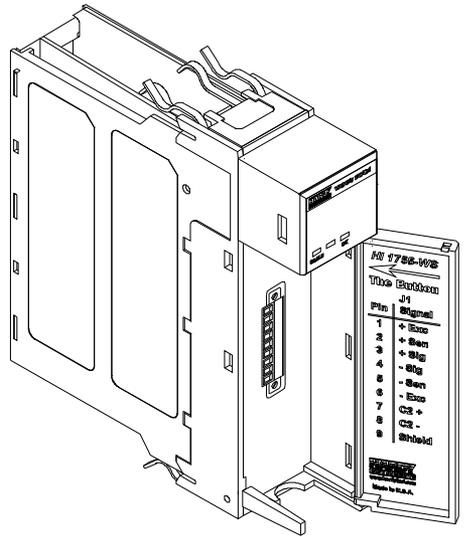

FIG. 3-4 HI 1756-WS WITH DOOR OPEN
The I/O Connector at the front of the module connects the module to the Remote Terminal Assembly (-RTA), a load sensor, or the HI 215IT Series Junction Box, depending on how many load sensors are installed in the weighing system. See below for the pin-out diagram, which is also located on the inside of the module door. (See Fig. 3-4 & 3-5)
- Step 1. Open the Module door to gain access to the I/O connector. (See Fig. 3-4 & 3-5)